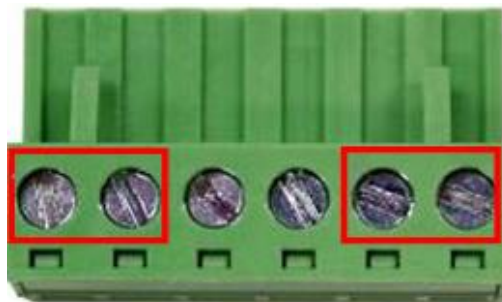

Figure 2.8
2. Tighten the wire-clamp screws to prevent the wires from loosening, as shown below in *Figure 2.8*.